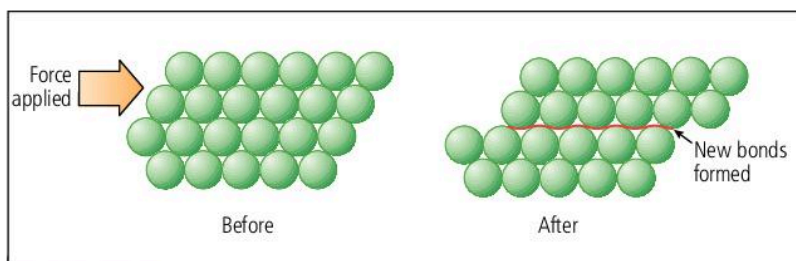

Figure 5.6.2 The layers of metal atoms slide when a force is applied, but new bonds are soon formed.
- They are **malleable** (can be shaped by hitting) and **ductile** (can be drawn into wires). This is because, when a force is applied, the layers slide over each other (see Figure 5.6.2). Metals are not brittle like ionic compounds because in metals, new attractive forces are formed between the delocalised electrons and the atoms in the layers.